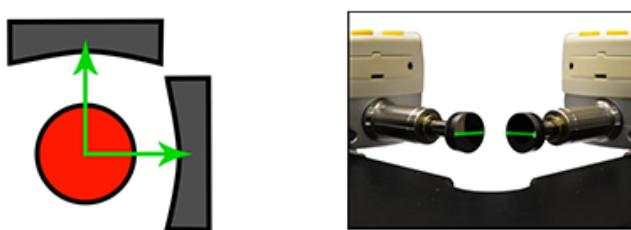

Figure 18
- Use the keypad/mouse to jog in both X and Y-axis with zig-zag movements until the ball is centered with both X and Y-dial indicator contacts (Figure 18).